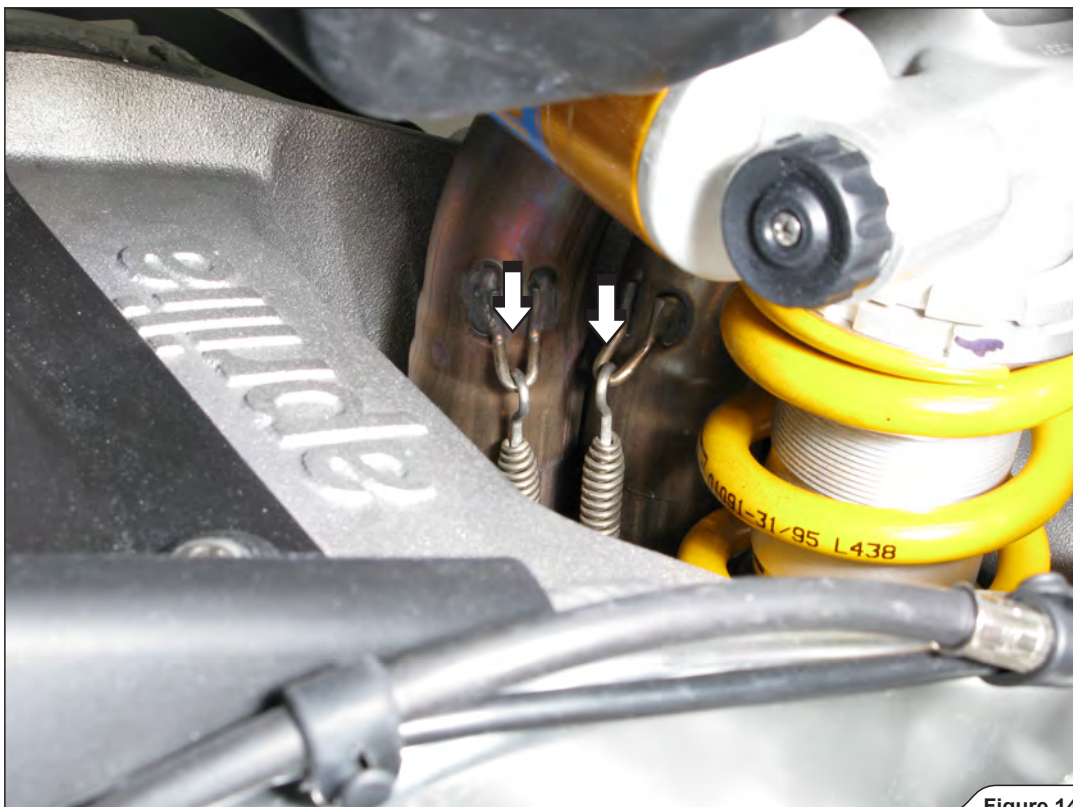
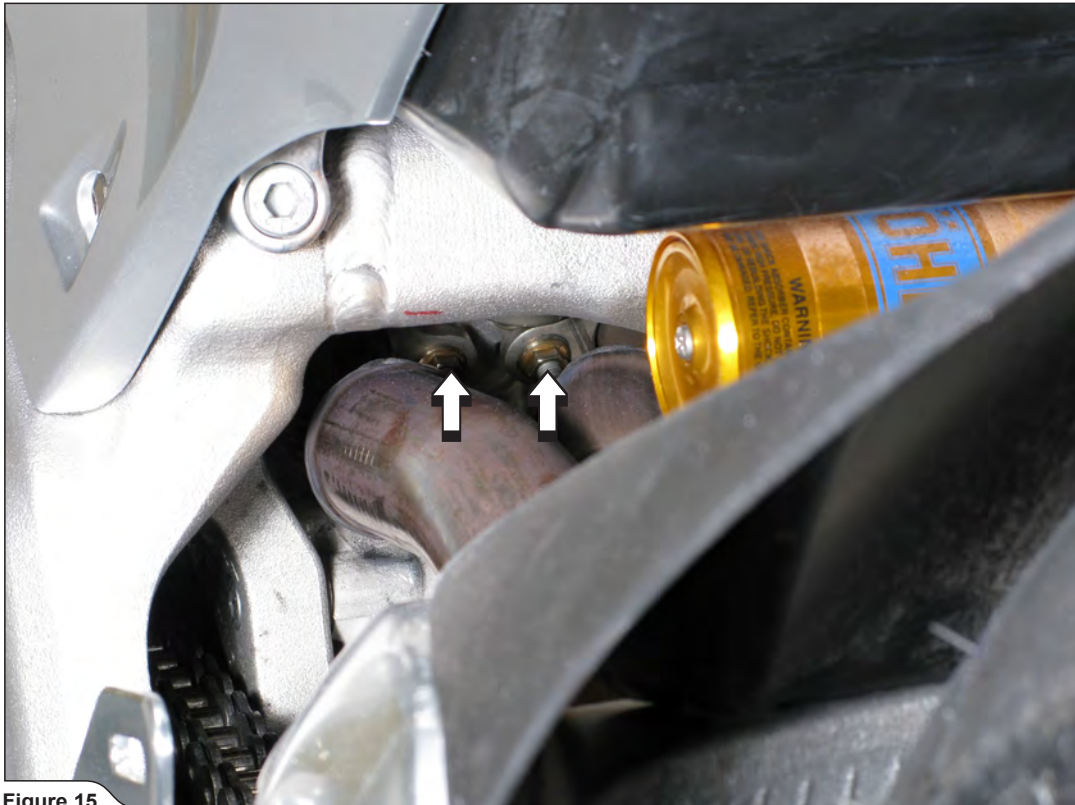

Figure 14
Figure 15
11. Unhook the springs (**Figure 14**) and loosen up the nuts of the rear header tubes (**Figure 15**).